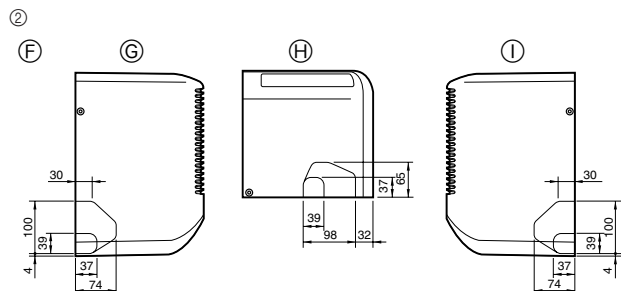

Fig. 4-4
- ② Determine the position of the knockout holes on the unit body (Fig. 4-4)